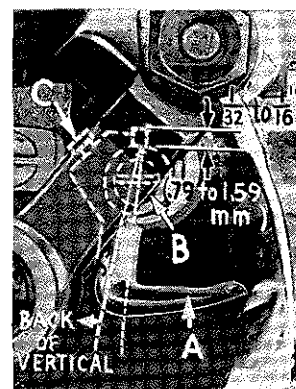

Fig. 8
Insert upper looper (A, Fig. 8) in its holder. Screw (B) holds upper looper in its holder, and permits it to be pushed in or out, or turned around its shank. Insert upper looper holder into upper looper shaft, if it is not already in place. Screw (C, Fig. 8) on clamp holds the upper looper holder in the shaft. Locate upper looper in its holder so that the shank extends  $1/32$  to  $1/16$  inch (.79 to 1.59 mm) beyond holder (Fig. 8), for Styles 39500 QA, QB, RS, SE, SG, TA and TD, and  $1/16$  to  $3/32$  inch (1.59 to 2.38 mm)
When the upper looper is at the right end of its stroke, upper looper holder should be set to position upper looper shank slightly back of vertical on Styles 39500 QA, QB, QP, QY, RA, RF, RS, SE, SG, TA, TD and TH (Fig. 8). On Styles 39500 RR and SF upper looper holder should be set to position the upper looper shank about vertically.